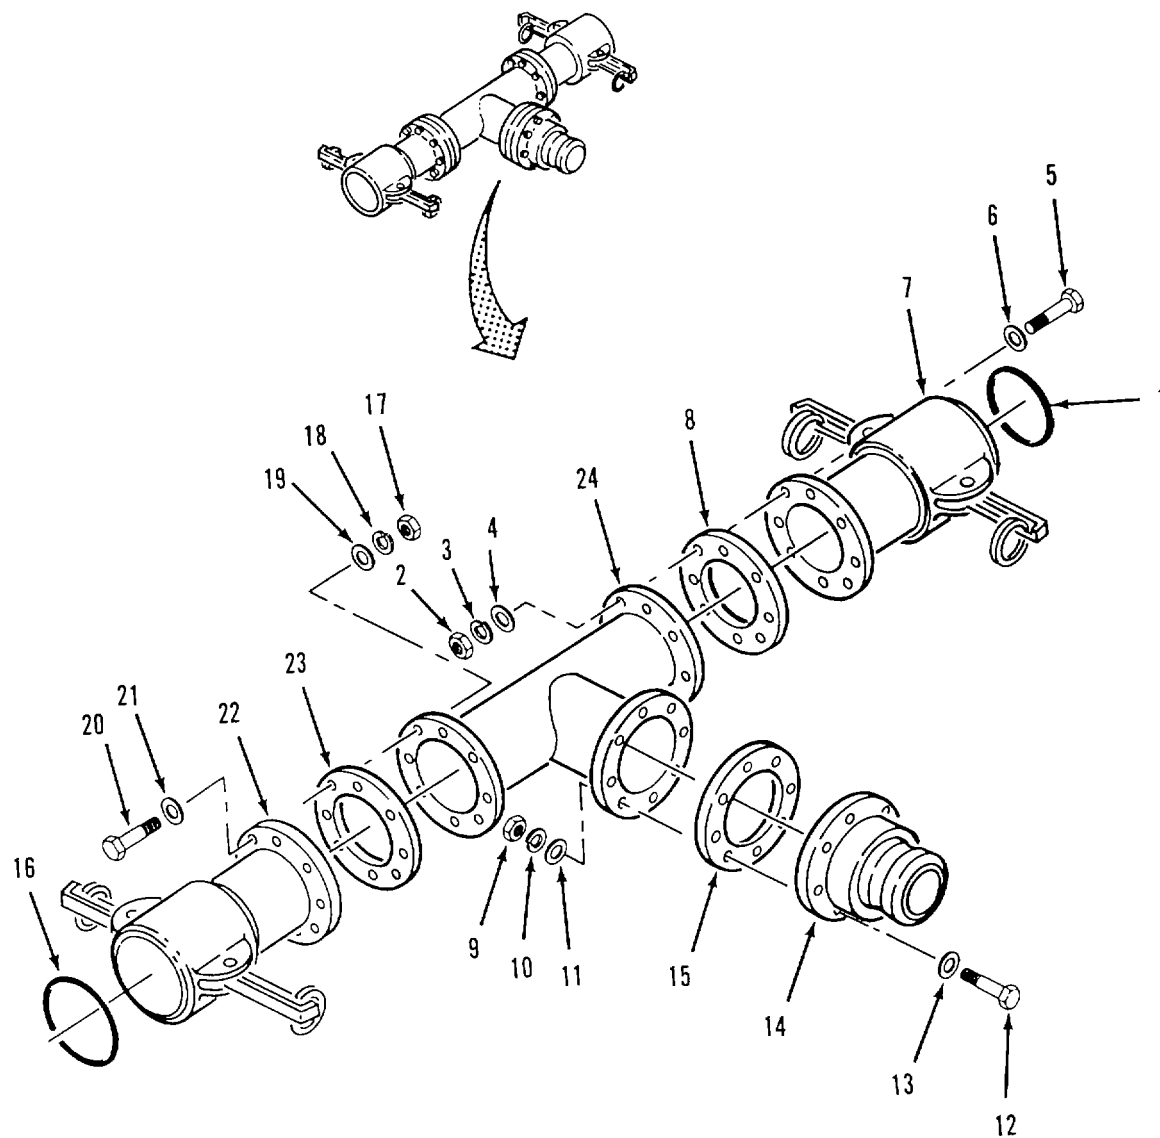

Figure 4-20. Tee Assembly (9112-YI) Assembly
- (1) Inspect male coupling (14) for cracks.
- (2) Inspect female couplings (7 and 22) for cracks and damaged lock arms.
- (3) Inspect tee (24) for cracks and corrosion,
d. Repair. Replace defective components. Do not reuse sealing components.**e. Assembly. Refer to figure 4-20.**
- (1) Position gasket (23) and female coupling (22) on tee (24).
- (2) Install eight flat washers (21), screws (20), flat washers (19) lockwashers (18) and nuts (17)